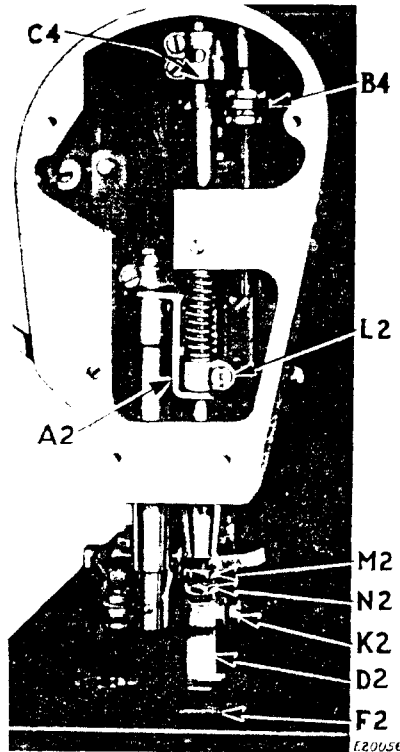
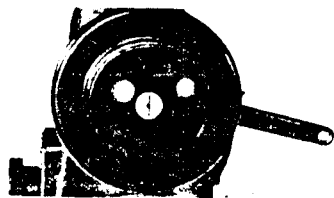
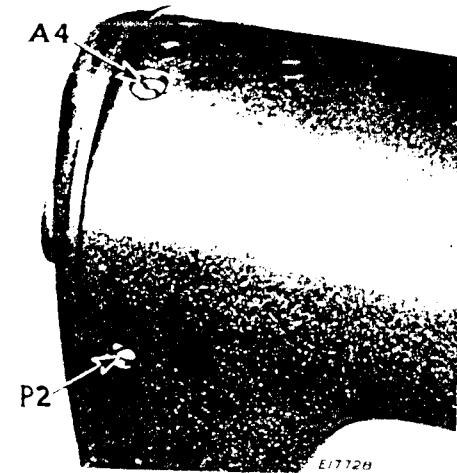

Fig. 11. Removing and Replacing Bonding Foot Adjusting Bonding Foot Bar (with Filling Plate Removed)
Fig. 11A. Showing Arrow on Arm Shaft. (Indicating Bonding Foot at Top of Stroke)
Fig. 12. Adjustment for Bonding Foot Bar
In general, the bonding foot D2, Fig. 11 should be set so that, at the top of its stroke, as indicated by arrow on balance wheel of arm shaft, (see Fig. 11A), the space between the bottom of the bonding foot D2 and the top of the electrode F2, Fig. 11 will be approximately twice that of the thickest portion of the material being bonded. However, the space between the bottom of the bonding foot and the top of the electrode F2 should never be less than .015 inch regardless of how thin the material
Raise lifting lever at rear side of machine head to raise the presser bar and the bonding bar. Loosen set screw K2, Fig. 11 in bonding foot D2. Take out the four screws which fasten the face plate to the machine head, to remove the face plate.
The above adjustment is attained by means of the nuts M2 and N2 as shown in Fig. 11. First loosen set screw K2, Fig. 11, then loosen lock nut M2 and turn adjusting nut N2 up or down until the desired height of foot is obtained, then tighten set screw K2 and turn lock nut M2 firmly against the adjusting nut N2.
While the foregoing adjustment sets the bonding foot D2 the desired height above the electrode F2, it does not provide a positive limit of descent for the bonding foot. Positive limit of descent is achieved by loosening set screw P2, Fig. 12 at the front side of the machine head and with bonding foot at bottom of stroke, as indicated by position of arrow on balance wheel end of arm shaft, and turning adjusting screw A4, Fig. 12 up or down until the bonding bar stop plate B4, Fig. 11 contacts the bottom of the bonding bar lifting bracket C4, Fig. 11.
While it is advisable to make use of the adjustment provided by the screw A4, Fig. 12 to limit the descent of the bonding foot to a distance slightly below the top surface of the material being bonded such adjustment is not absolutely necessary.
**NOTE**—It is not necessary to remove the face plate to make this adjustment. The face plate is removed in Fig. 11 only for the purpose of illustrating the mechanism affected by turning the adjusting screw A4, Fig. 12.